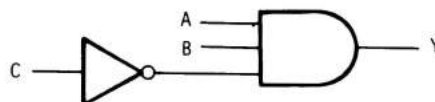

Figure 5-14
9. Write the logic expression for the circuit of Figure 5-14.
9. The logic expression for the circuit of Figure 5-14 is: